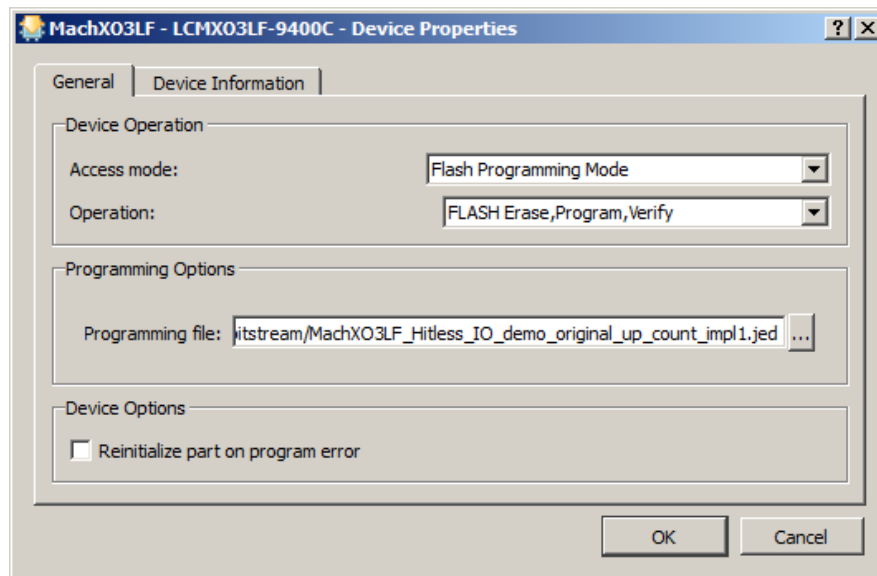

Figure 6.4. Browse Programming File
- Set device properties as shown in Figure 6.4. In the Device Properties dialog box, select **Flash Programming Mode** in Access mode and **Flash Erase, Program, Verify** in Operation. Select the bitstream file `\bitstream\MachXO3LF_Hitless_IO_demo_original_up_count_impl1.jed` in Programming file. Click **OK**.